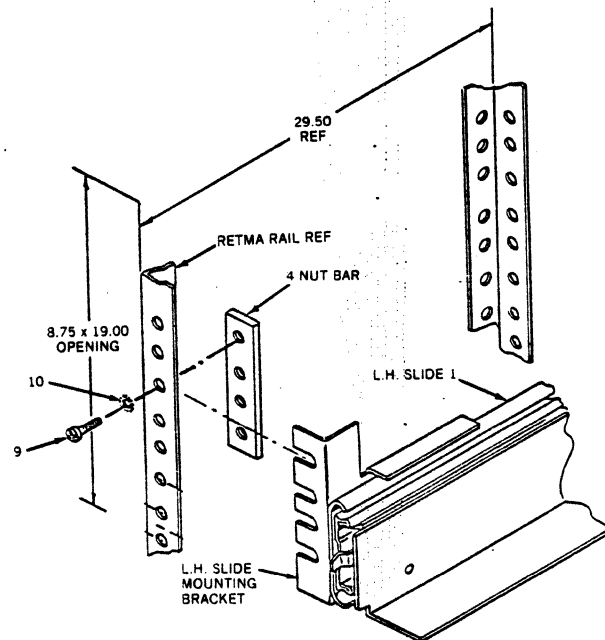

Figure 7-2. TRU-GUIDE Slide and Nut Bar Mounting
3. Loosely mount the left front NUT BAR (4) at the desired height. See Figure 7-2.